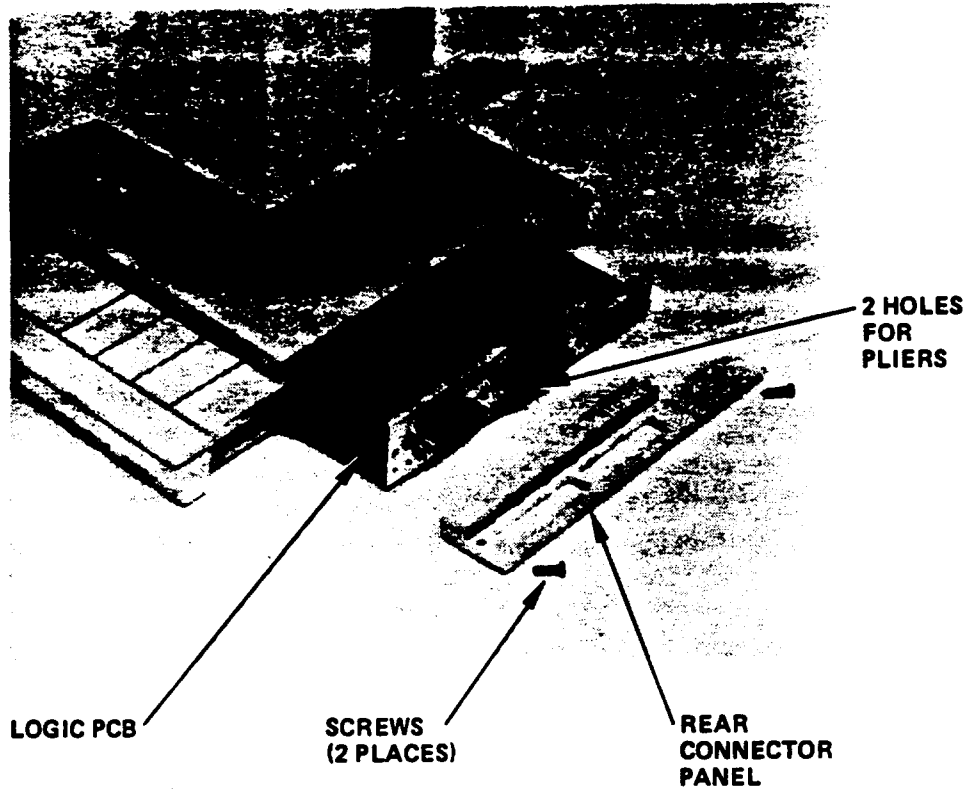

Figure 2-13. Removal of the Logic Board
3. Remove the rear connector panel (2 screws) and slide out the Logic Board (refer to Figure 2-13).
1. After removing the cables connected to the terminal, unscrew the two Phillips head screws and remove the rear connector panel (refer to Figure 2-13).
2. Insert needle nose pliers into the two small holes in the center of the plate as shown in Figure 2-13.